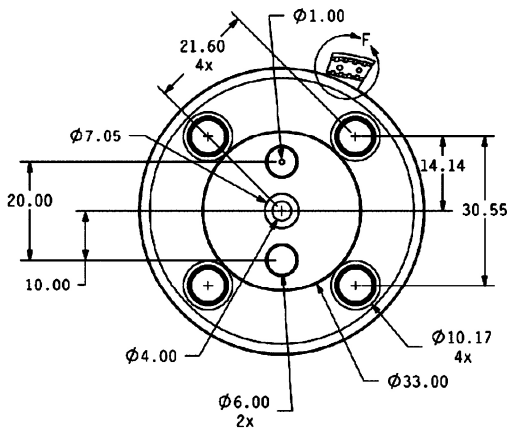

Figure 2 - GPS183 Bottom Case Dimensions, Under Mold
3. Figures 2 & 3 show the GPS183 dimensions and case details.